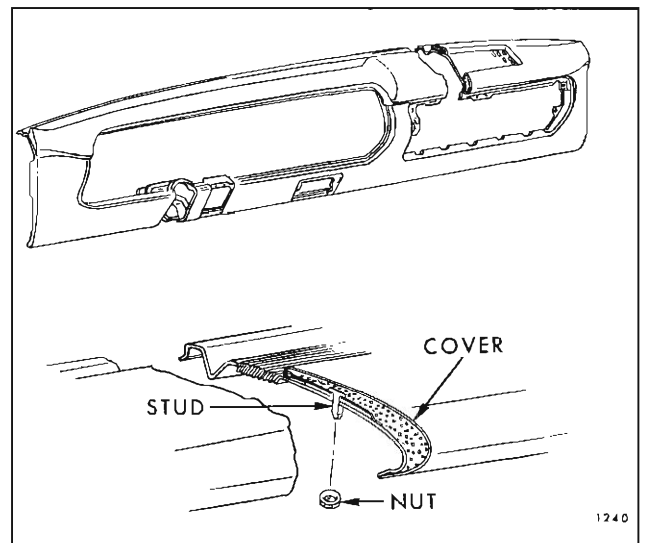

Fig. 2C18—Instrument Panel Cover - 13000 Series
1. Loosen or remove necessary chassis parts. Working from under instrument panel remove attaching nuts and remove cover. (Fig. 2C18). To install, reverse removal procedure.